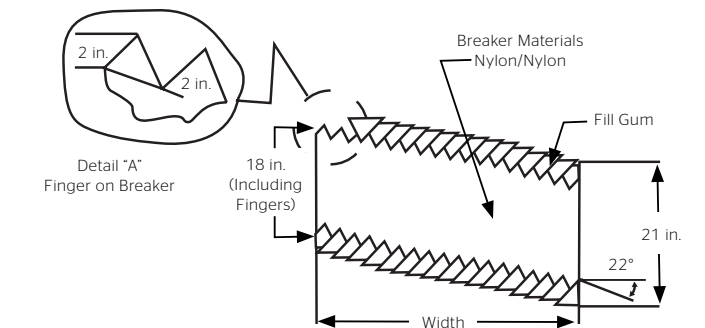

Fig. 6-7: Breaker: detail geometry
36. Fig. 6-7 shows the breaker with 2 in. fingers